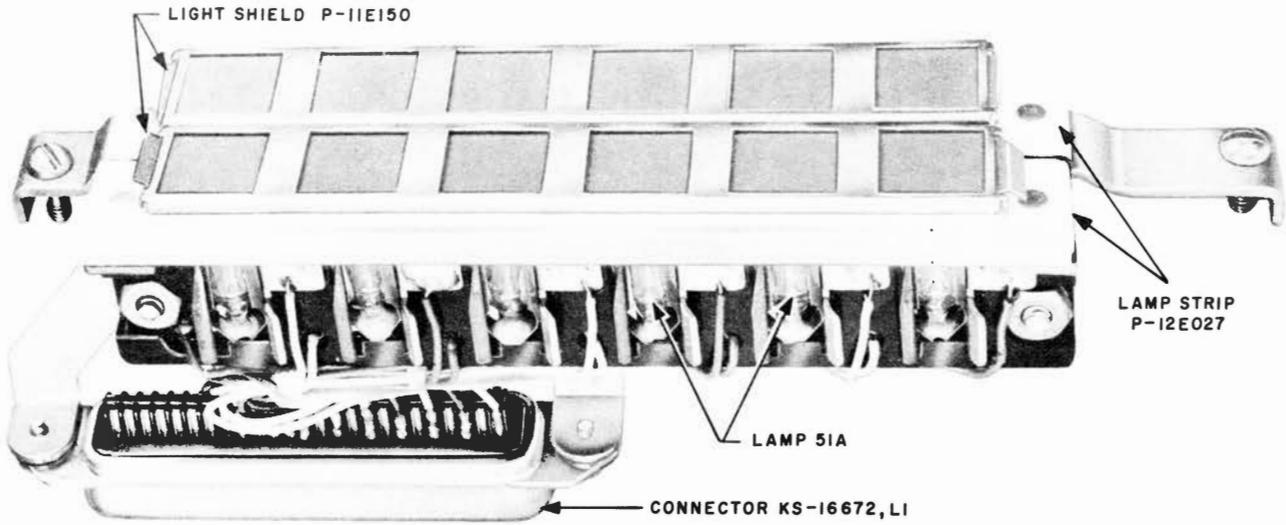

Fig. 1 - 59A Lamp Socket
3.02 The 59A lamp socket module (see Fig. 1) consists of two lamp strips, each containing six 51A lamps. Lamp strips are mounted on a steel frame and are wired to a 50-terminal KS-16672, List 1 connector. Lamp designation is accomplished by placing an E-4646 designation strip over each row of lamps. The designation strips are held in place by a P-11E150 light shield.